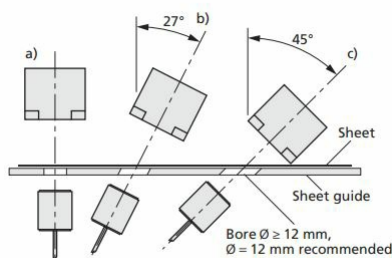

Fig. 3: Installation positions
- If you install the transmitter in a recessed position or position a sheet guide between the transmitter and receiver, the hole must have a minimum diameter of 12 mm, but we recommend a diameter of 18 mm (Fig. 3). \hat{I} Connect the transmitter to the receiver using the 2-pin plug-in connector.